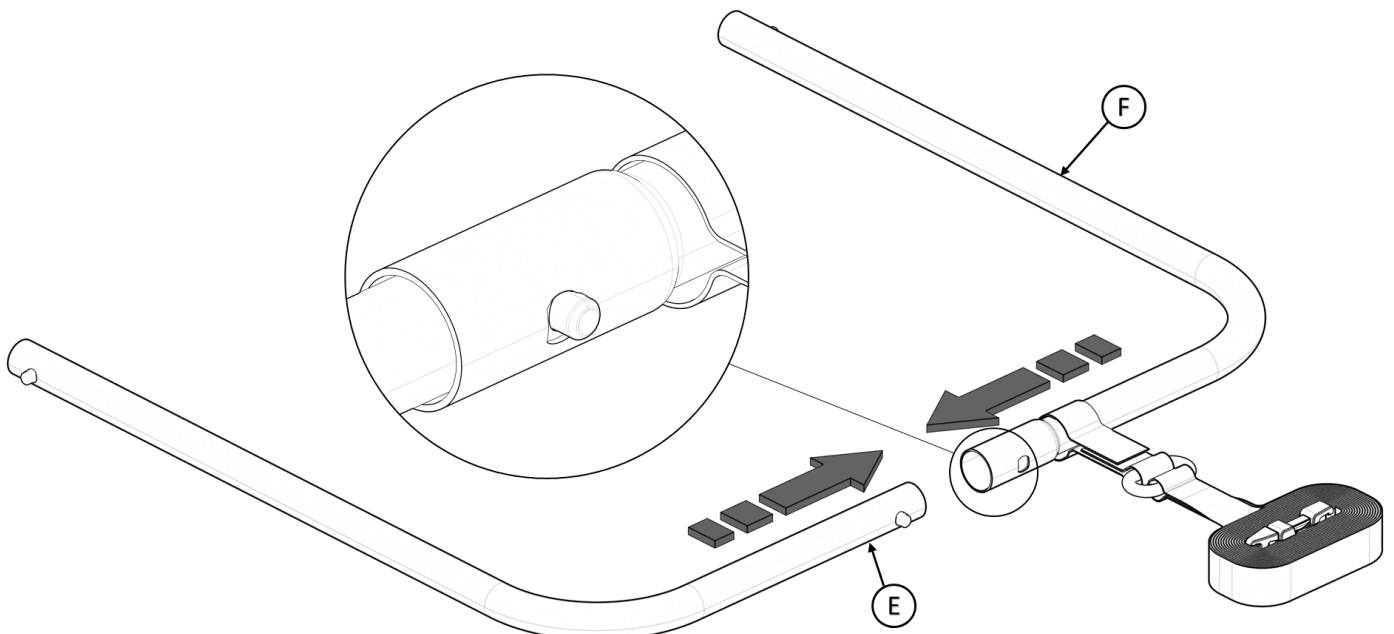

FIGURE 2
2. Connect Base Tubes together (**E** and **F**) as shown in *FIGURE 2*.